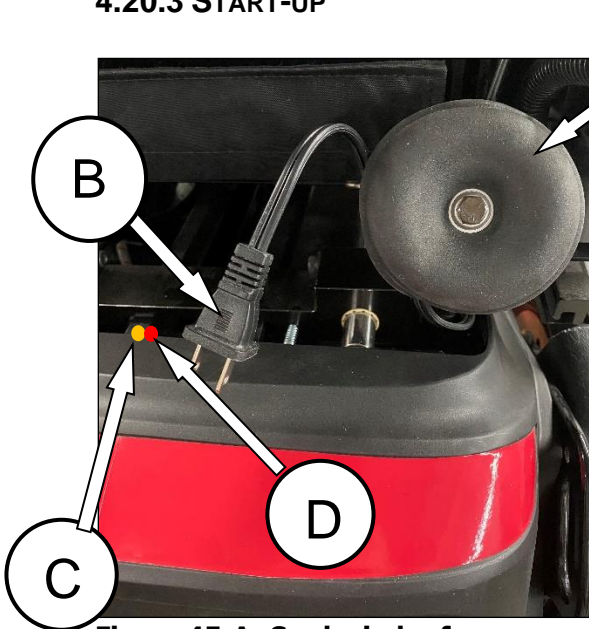

Figure 45-A: Cord winder for 110 VAC power cord
1. Unroll the power cord (A) inside the cord winder behind the back support (see Figure 45-A).